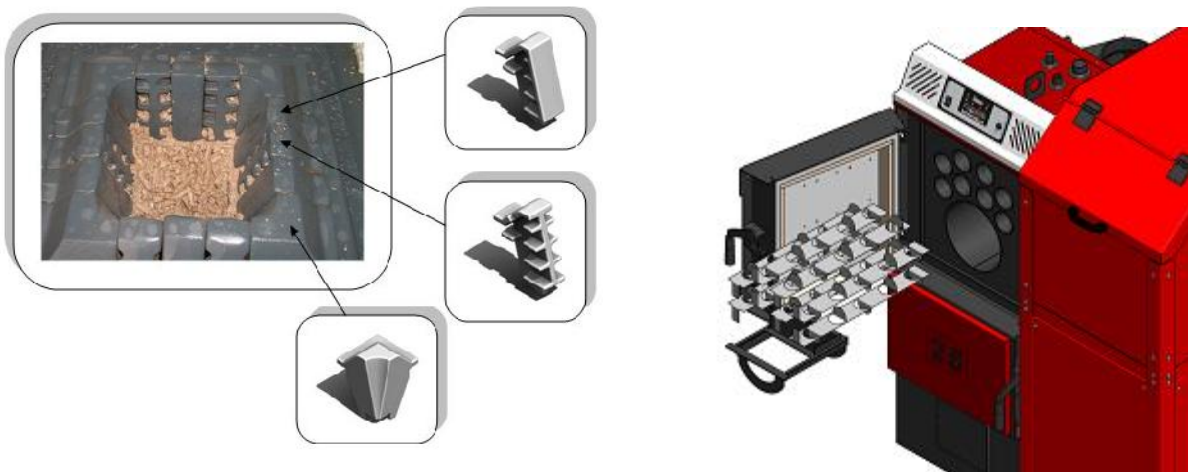

Figure 18. Display removing turbulators from boiler ECO COMFORT
- Once in a month it is necessary to open the top cover for cleaning, remove the turbulators and then from the whole area of the boiler the tar and soot should be removed (**figure 18.**). All that is removed in this way, can be collected and taken away through lower openings.